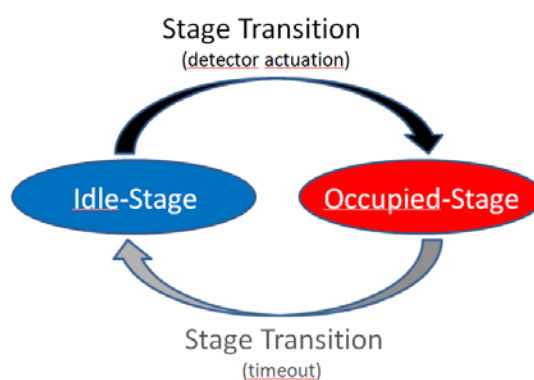

Figure 16: Illustration of control logic example.
- For a schematic illustration please see Figure 16.